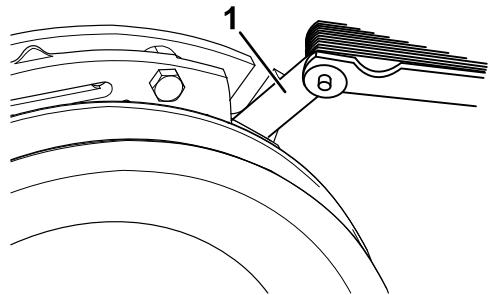
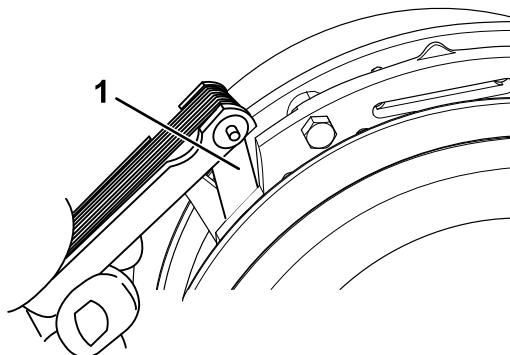

Figure 62
Figure 63
E. Using a 0.010 inch thick-feeler gauge, verify that a gap is present between the rotor and armature face on both sides of the brake pole as shown in Figure 62 and Figure 63.